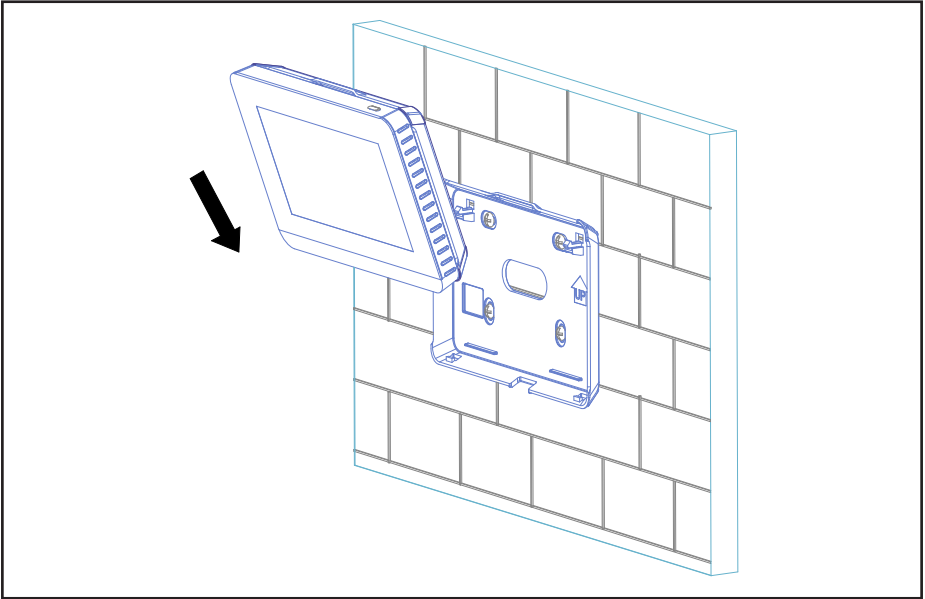

Figure 5. Insert Controller into Back Cover
3. Insert the controller into the bottom snap joints of the back cover at an angle. See Figure 5.